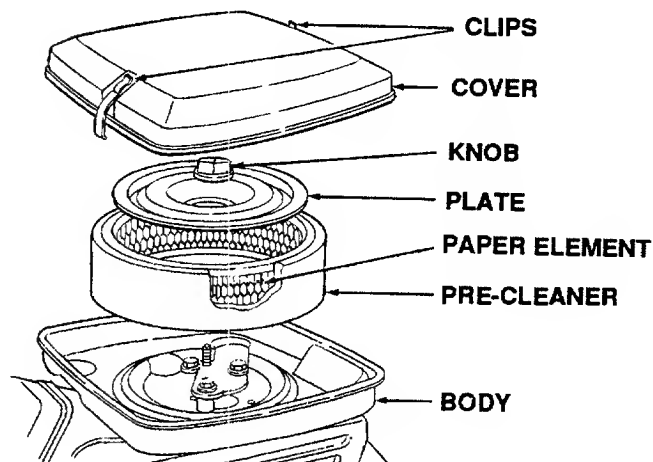

Figure 25. Air Cleaner Assembly.
1. Unhook the clips on both sides of the air cleaner cover and remove the air cleaner cover (See Figure 25).
2. Remove the foam precleaner by sliding it up off the paper element (See Figure 25).